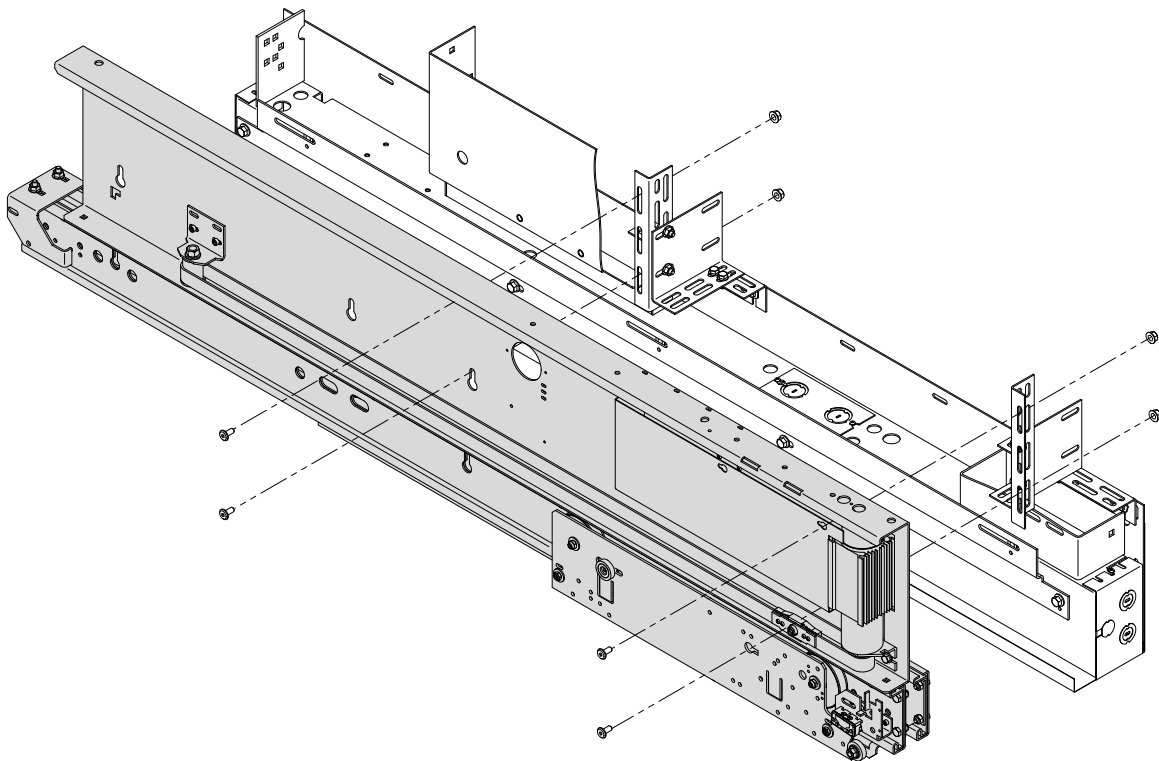

Figure 14 - Adapter Angle Installation (3 of 3)
10. Install the door operator to the adapter angle. See Figure 14 on page 19.